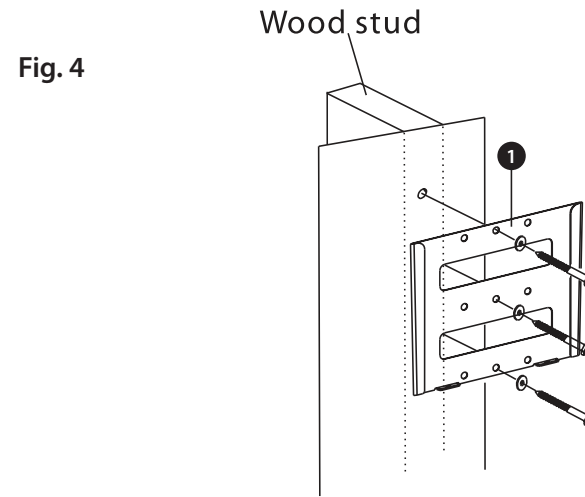

Fig. 4
The Wall Plate ① is attached to the wall using a minimum of three appropriate screws/bolts and washers as shown in Fig. 4.